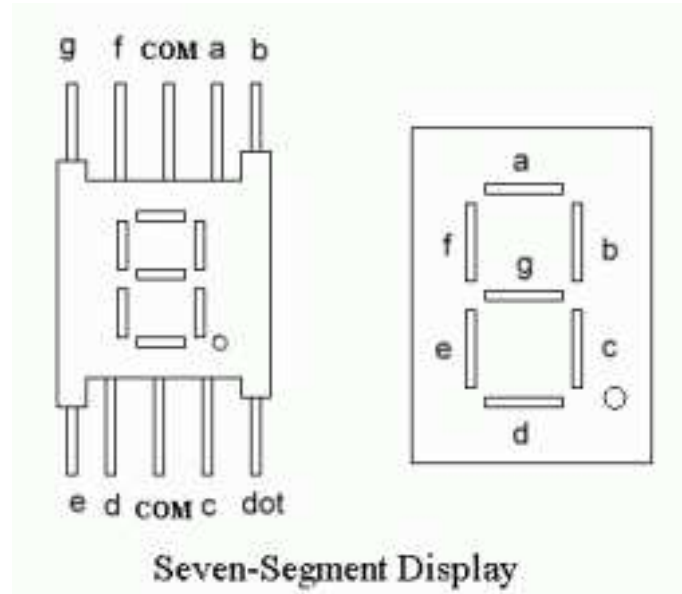

Fig. 1.2: Seven Segment Display.
**Problem 1.2.** Connect one end of the 220 Ω resistor to the COM pin of the display in Fig. 1.2 and the other end to an extreme pin of the breadboard. The seven segment display has eight pins, *a, b, c, d, e, f, g* and *dot* that take an active LOW input, i.e. the LED will glow only if the input is connected to ground. Each of these pins is connected to an LED segment. The *dot* pin is reserved for the · LED.